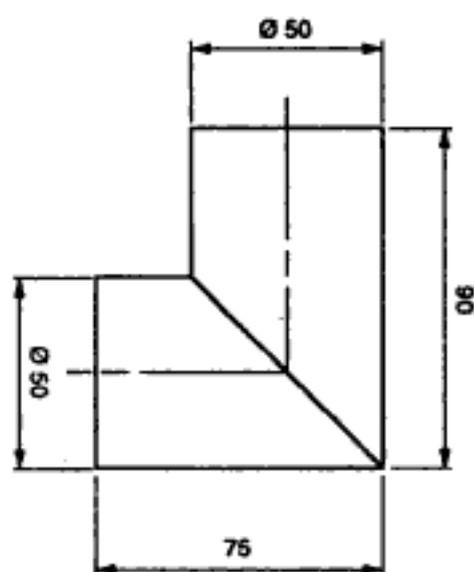

Fig 6.44
- 2 Fig 6.44 shows one view of a right-angled pipe elbow. Draw the given view and develop the surface of both pieces.